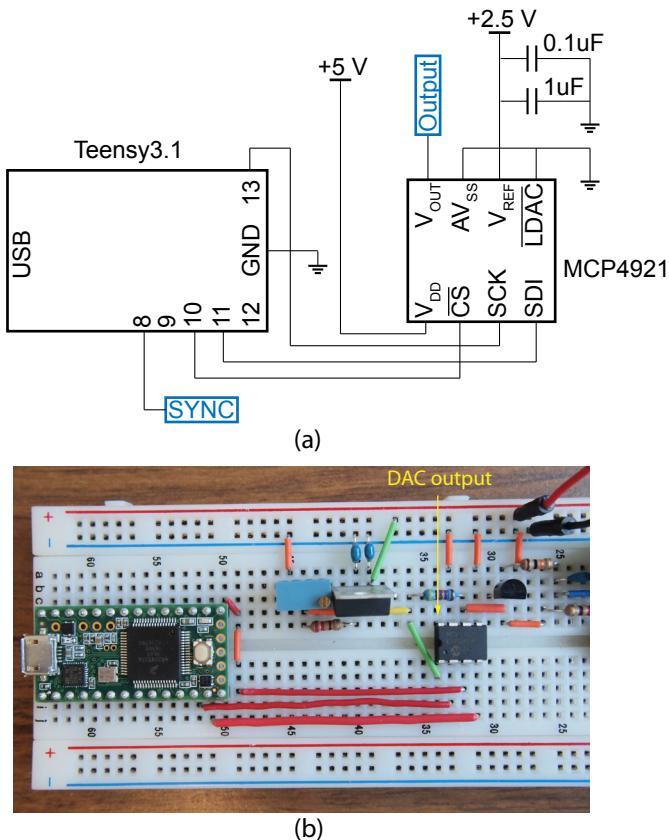

Figure 14: Schematic of the connection between the Teensy 3.2 and the MCP4921.
1. Using Fig. 14-a as a reference, connect the Teensy to the MCP4921 DAC. Connect the MCP4921's VDD pin to the output of the LM317 regulator (5 V). Connect the MCP4921's VREF pin to the LT1009 reference's output (2.5 V). Connect both AVSS and LDAC of the MCP4921 to ground. A 0.1  $\mu$ F and a 1  $\mu$ F capacitor could be used at VREF to minimize noise at the reference. It is very important to keep your circuit (ICs, resistors, capacitors, wires, etc) organized. Use as short of a wire as possible between two connection points. Refer to Fig. 14-b for an example layout.